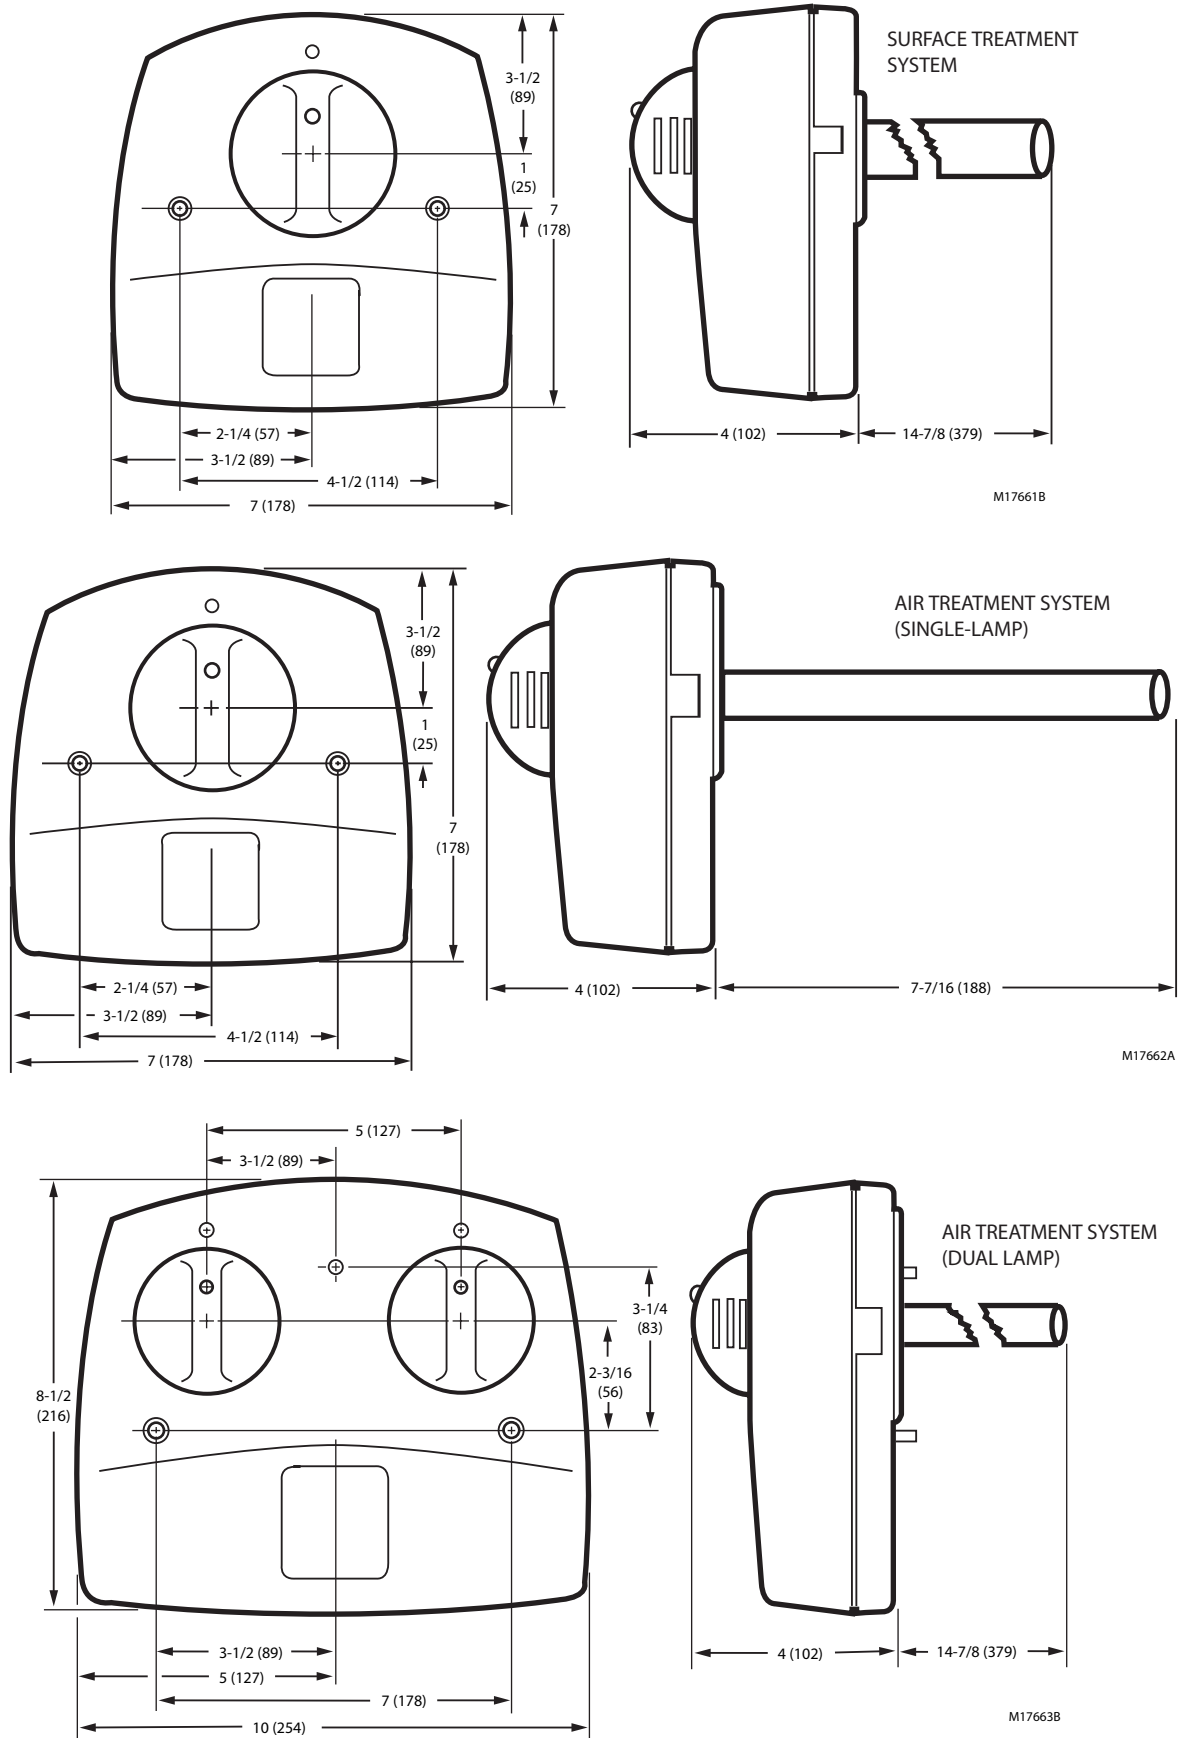

Fig. 3. Ultraviolet System dimensions in in. (mm).
Dimensions: See Fig. 3.
3. Allow clearance in front of the device for removing the bulb assemblies. See Fig. 3 for bulb assembly lengths.
- b. The duct mounting location must be a minimum of 8 in. wide. See Fig. 3.
- c. The depth of the duct must accommodate the full length of the ultraviolet bulb for your model as shown in Fig. 3.